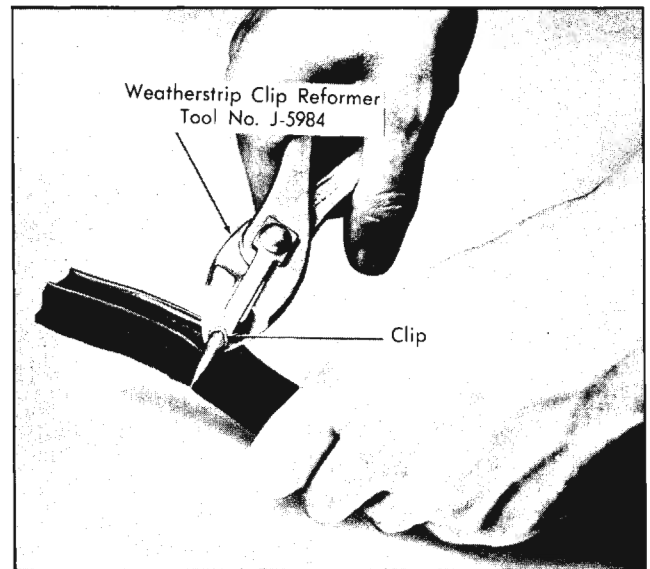

Fig. 16-40 Reforming Weatherstrip Clip
1. Check weatherstrip attaching clips for proper contour and reform, if necessary, using Clip Reforming Tool J-5984. (Fig. 16-40)
1. Check all weatherstrip attaching clips for proper contour and reform, if necessary, using Clip Reforming Tool J-5984. (Fig. 16-40)